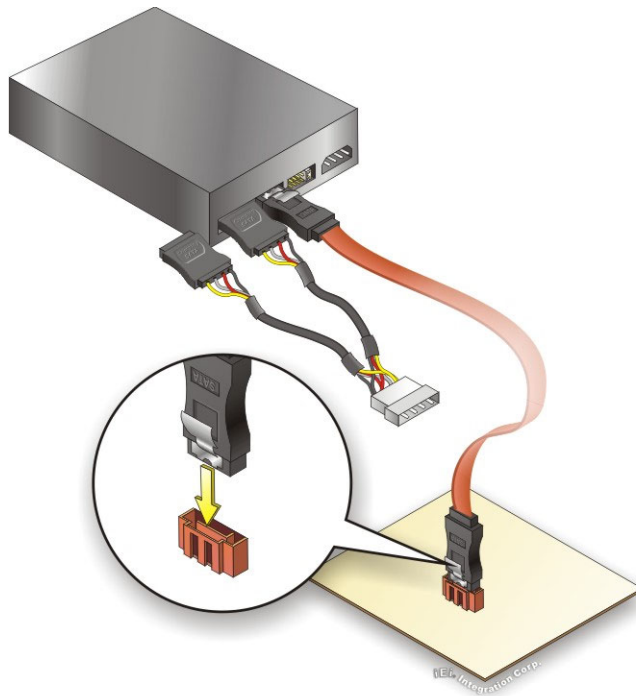

Figure 4-22: SATA Power Drive Connection
- Step 3:** Connect the cable to the SATA disk. Connect the connector on the other end of the cable to the connector at the back of the SATA drive. See **Figure 4-22**.
- Step 4:** Connect the SATA power cable. Connect the SATA power connector to the back of the SATA drive. See **Figure 4-22**.